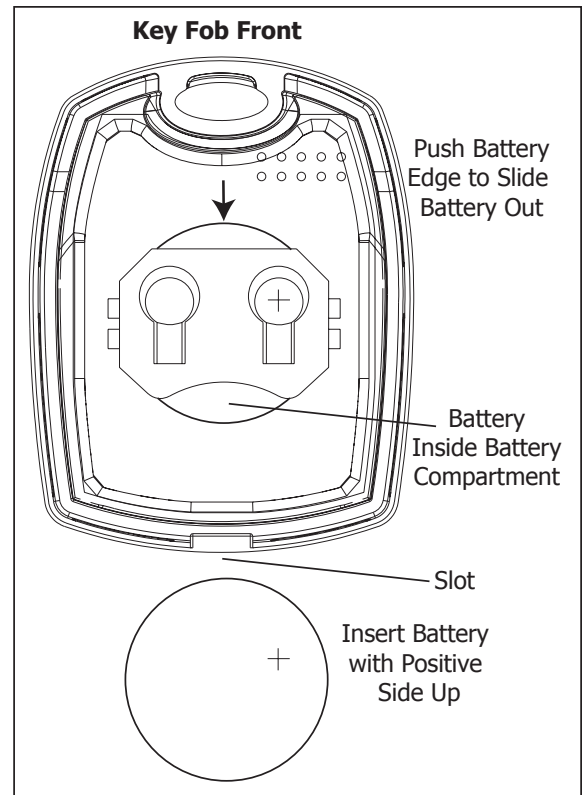

Figure 3: 1100 Series Battery Location
2. Push and slide the old battery out of the holder in the direction of the arrow to remove it. See Figure 3.